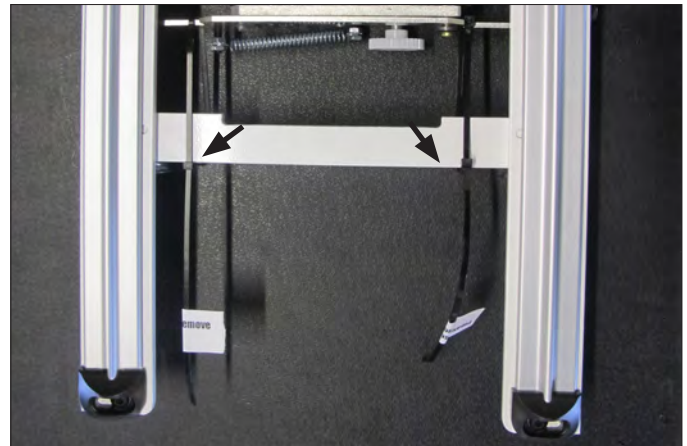

Figure 3.32
2. Remove the blue 12-foot Flexirack (Page 3.3, A) and the HQ Pro-Stitcher carriage (E) from the box. Cut the cable ties from the front of the carriage (**Figure 3.32**).